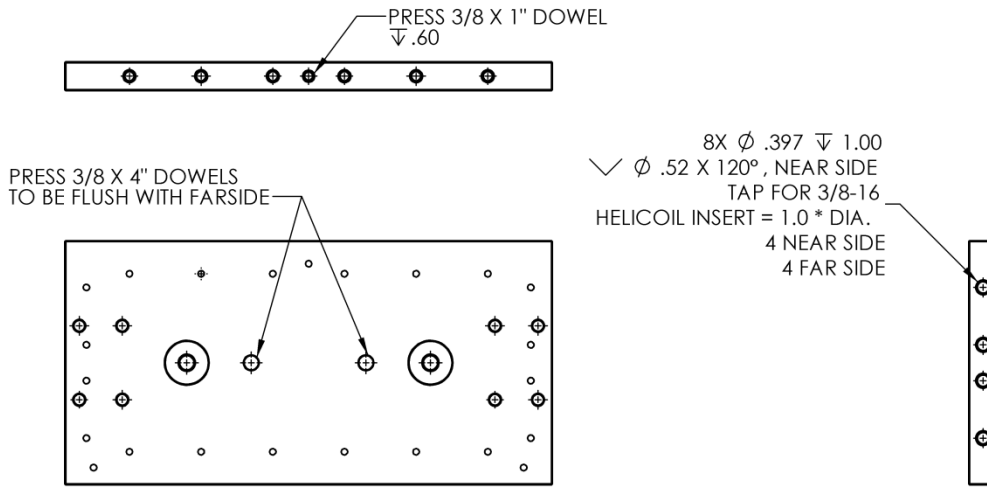

Figure 22
1. Apply Helicoils and dowel pins as shown Figure 22. Dowels must be inserted straight, they will extend out by 3 inches.